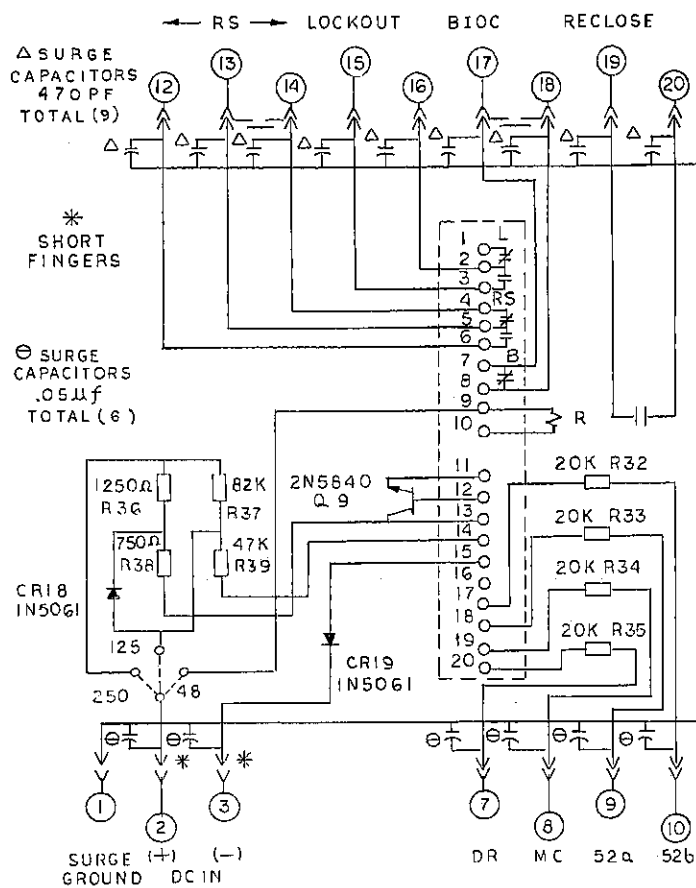

Fig. 6A (0285A5824-0) Internal Connections for 12SLR11A
- Fig. 6A Internal Connections for 12SLR11A